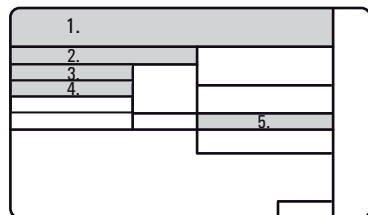

Fig. 2-1 Type plate for external unit
1 - Factory filling of the outdoor module (see fig. 2-1, item 5):	kg